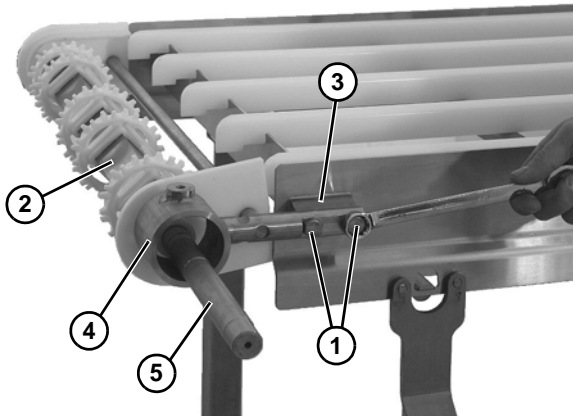

Figure 57
7. Remove two bolts (**Figure 57, item 1**) on each side, and slide the drive tail assembly (**Figure 57, item 2**) off the mounting posts (**Figure 57, item 3**).
8. Slide the motor support bracket (**Figure 57, item 4**) off the drive spindle shaft (**Figure 57, item 5**).